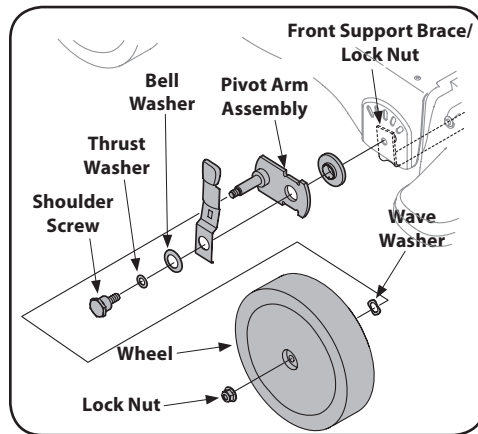

Figure 7-8
9. Remove the flange lock nuts, front wheels, and wave washers that attach to the pivot arm assemblies. See Figure 7-8.